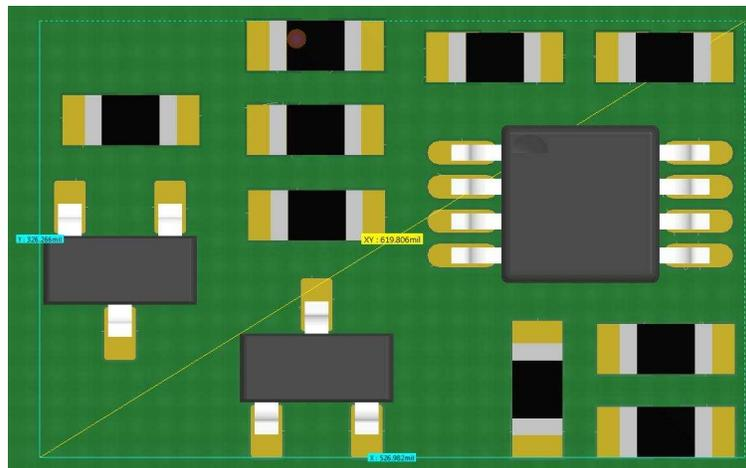

Figure 5. Two TL431LI + Dual Comparator Example Layout
- **Two TL431LI + Two Comparators:** This solutions uses four lower cost components to create an undervoltage and overvoltage monitoring solution. The solution requires at least four external resistors to set the fault threshold of the two TL431LI devices in addition to two pull-up resistors for each. An additional two external resistors for each comparator is required if level shifting is needed. Although this solution can be lower cost, often times the size of the devices plus the external components make it a large footprint solution as shown in Figure 5. The monitoring accuracy depends on the grade of TL431LI in addition to the grade of the resistors used. This solution provides typical monitoring accuracy between 3% to 6% and does not provide accurate hysteresis.